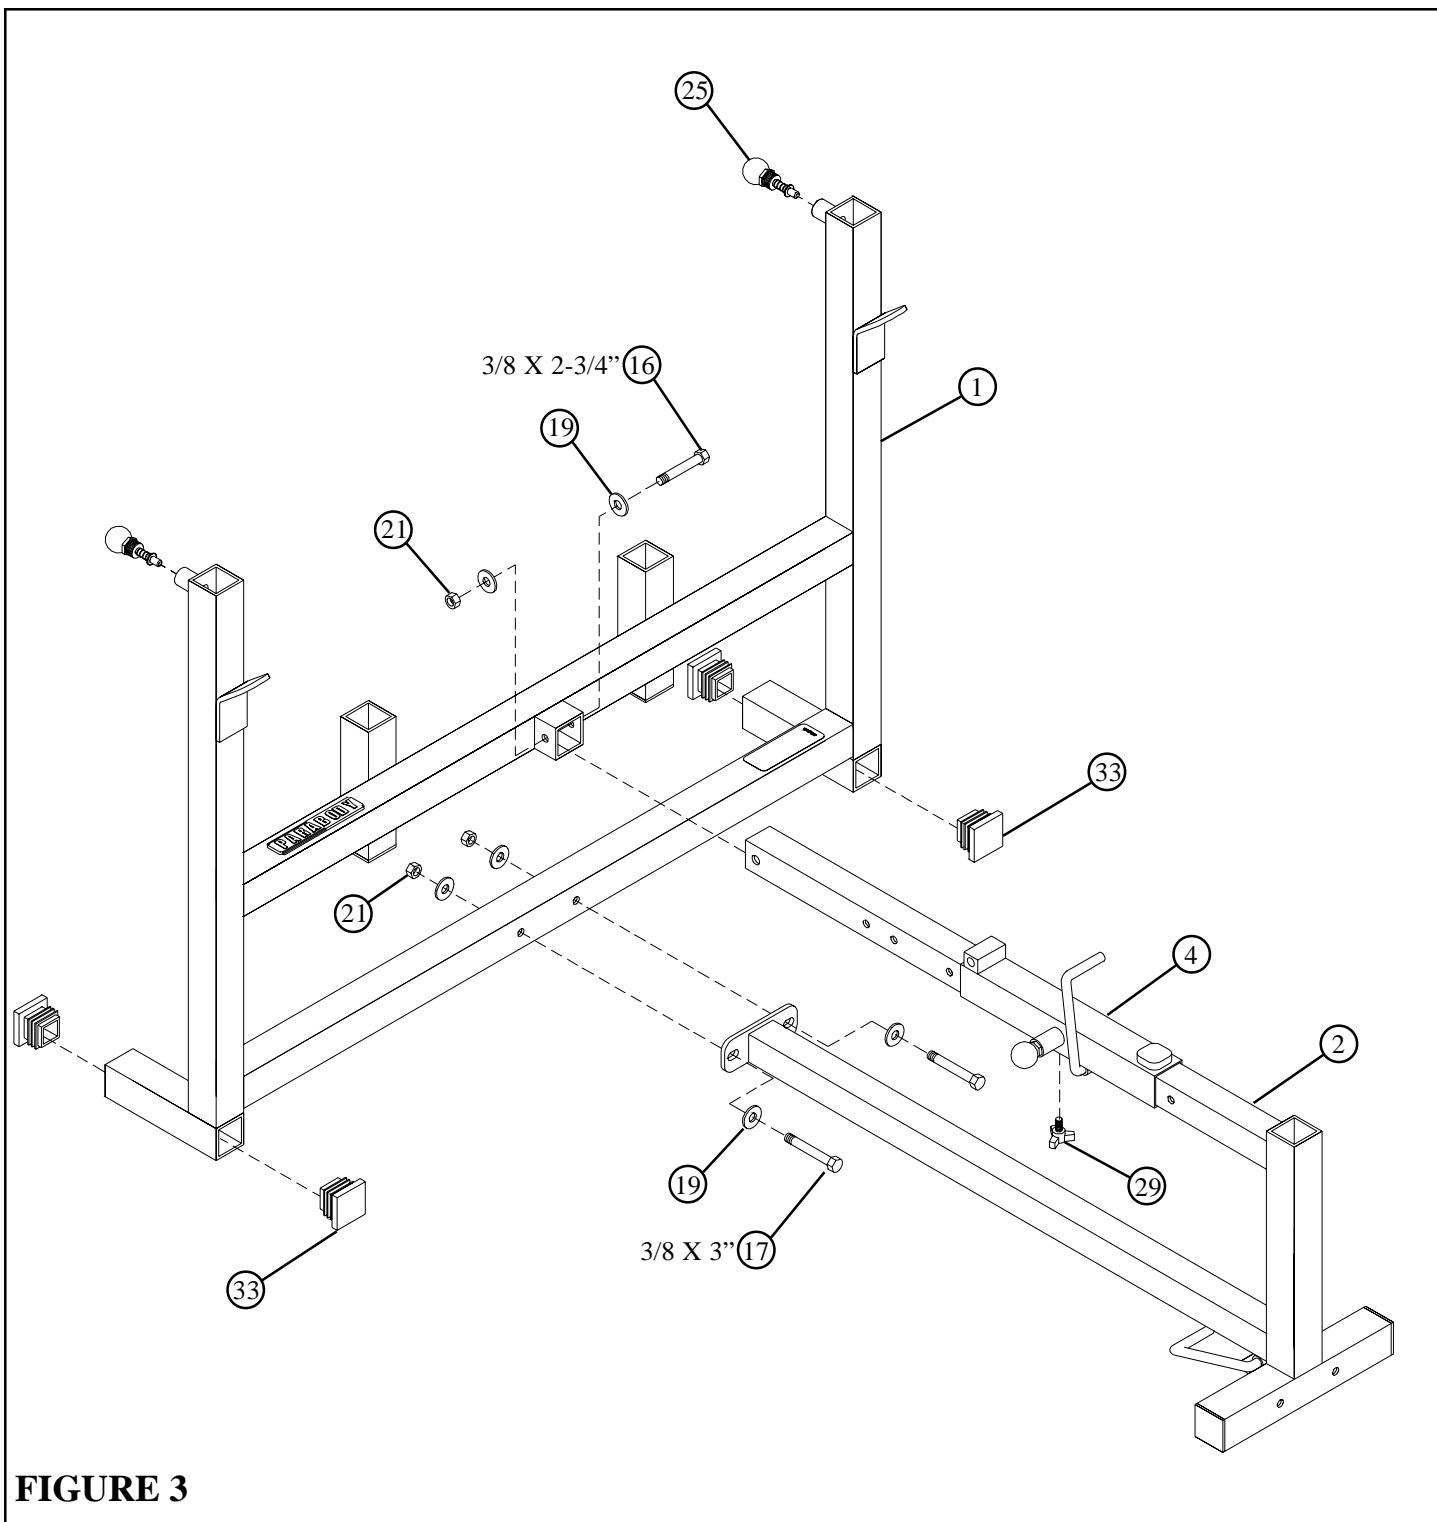

**FIGURE 2**
- Pull back the SPRING PIN on the SEAT ADJUST (4) and slide it over the end of the BENCH FRAME (2) as shown in FIGURE 2. Engage the SPRING PIN into one of the adjustment holes.
- Insert two 2" SQ. END CAPS (33) into both ends of the BASE LEG (5) as shown in FIGURE 2.
- Insert one U-PIN (10) through the BUSHING on the bottom of BENCH FRAME (2) and attach one E-RING (28) to the end of the U-PIN (10) as shown in FIGURE 2.
- Insert the BASE LEG (5) into the front of the BENCH FRAME (2) as shown in FIGURE 2. **(MAKE SURE THAT THE TAB ON THE BASE LEG IS UNDER THE BENCH FRAME)**